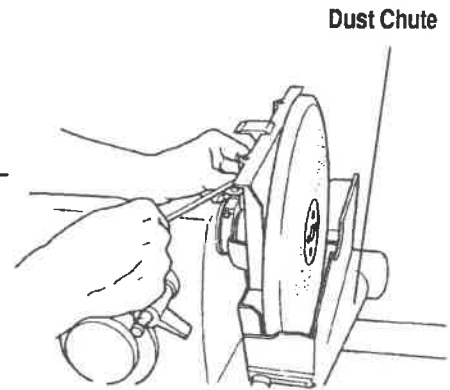

Fig. 5
7. —For Model 510 owners: Install the lower saw guard on the Mark V quill. Make sure the dust chute is loosened and moved out, as in Fig. 5.
—For Model 500 owners: Install the disc sander dust chute (optional) on the Mark V quill. Make sure the dust chute is loosened and moved out, as in Fig. 5.
9. Use a 5/32" Allen wrench to securely tighten the arbor's setscrew. See Fig. 5.